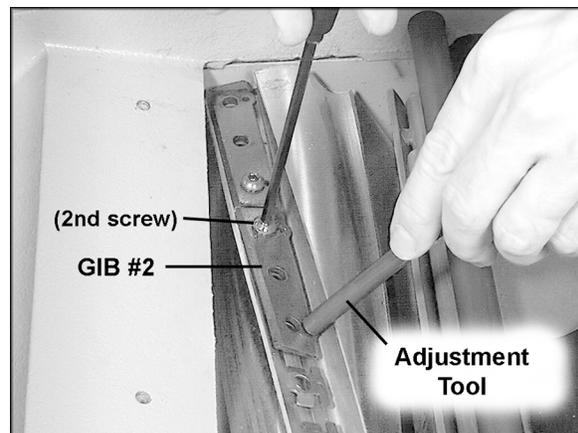

Figure 19 – Model 15S only
8. Put the first gib in place at the end of the cutterhead. Use the knife adjustment pins shown in Figure 19. The adjustment pins fit down through the smaller holes in the gib, knife, and cutterhead, helping to align them.
10. Put the next gib in place and repeat the process. See Figure 19. Use the adjustment pins and make sure the wings of the knife are completely in the cutterhead groove. Continue sequentially from one end of the cutterhead to the other end. Again, only make the screws snug enough to hold the knife in the groove.